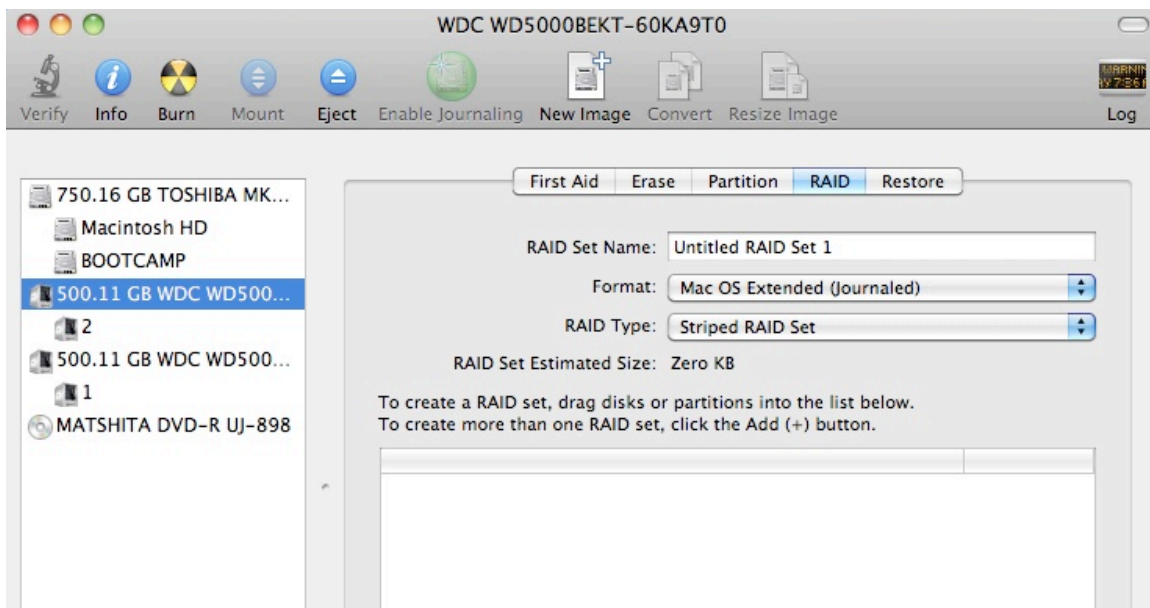

Figure 8: Selecting the RAID tab in Apple's *Disk Utility*
4. Select the *RAID* tab in Apple's *Disk Utility* (see Figure 8)